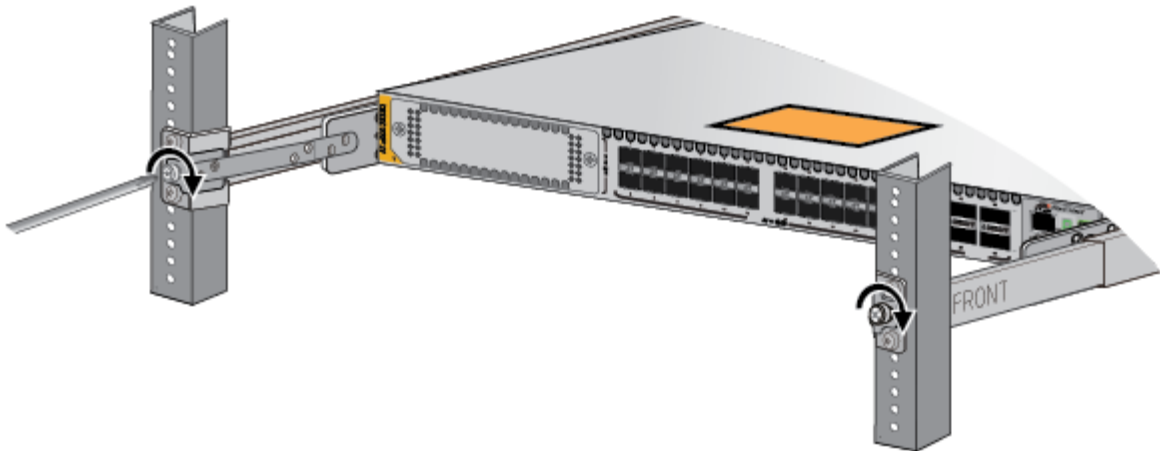

Figure 101. Tightening the Two Screws on the Fixed Brackets
4. Tighten the two screws on the fixed brackets to secure the switch to the equipment rack. Refer to Figure 101.